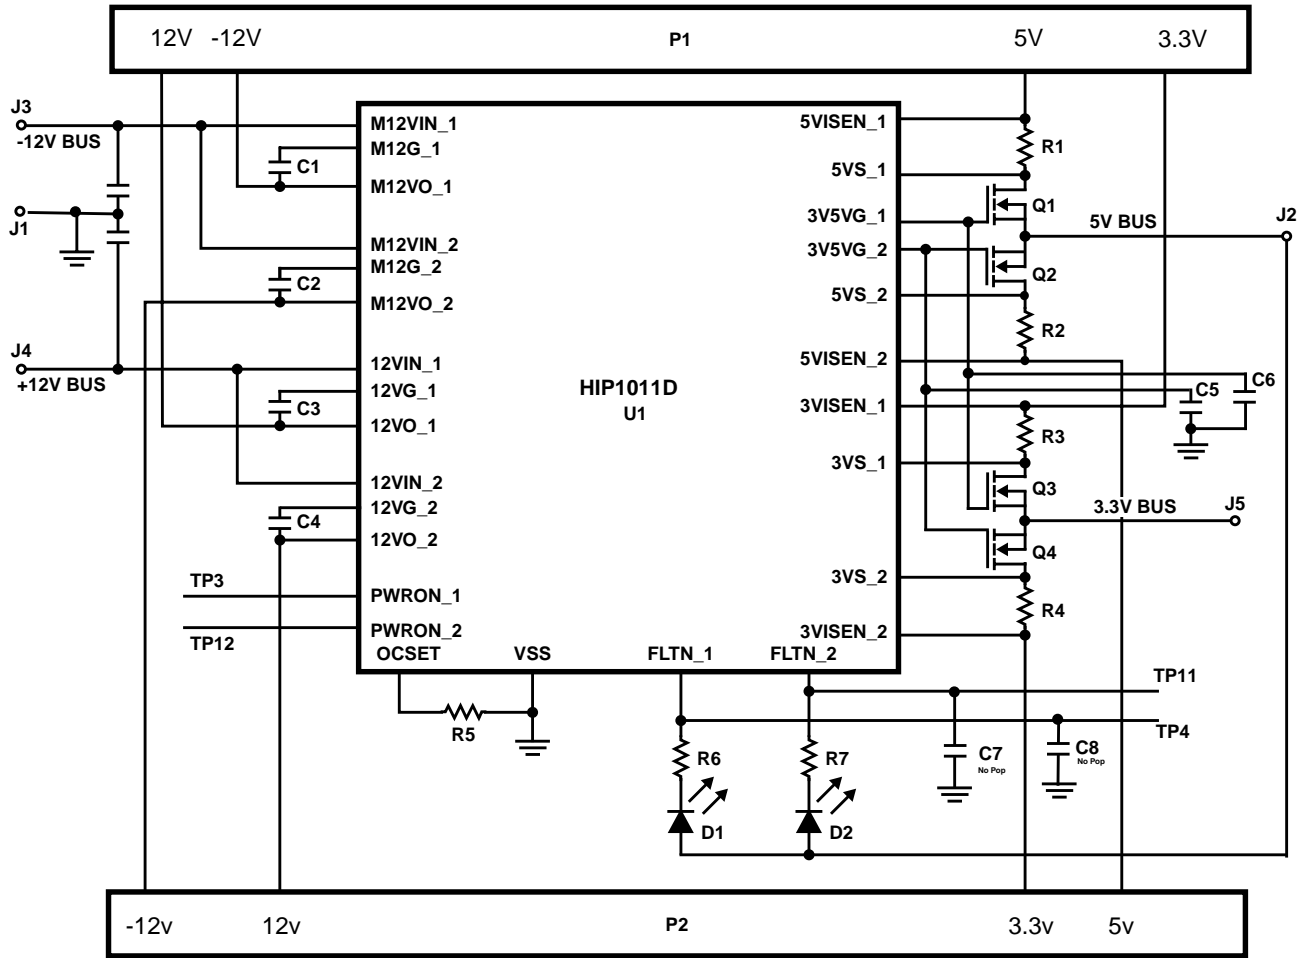

FIGURE 24.
1. For PCI applications, set R_{OCSET} to 6.04k Ω , and use 5m Ω 1% sense resistors (see Figure 24).
The HIP1011DEVAL1 platform (Figure 24) comes as a three part set consisting of 1 mother board emulator and 2 load cards. This evaluation platform allows a designer to evaluate and modify the performance and functionality of the HIP1011D in a simple environment.